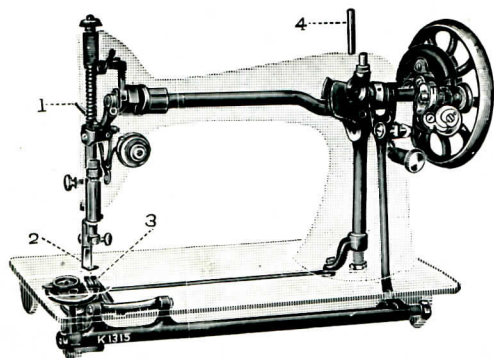

Fig. 2
When familiar with the working movement, tighten the balance wheel by turning the stop motion screw from you, and place a piece of calico or cloth under the presser foot (2, Fig. 2). Lower the presser foot upon the material by means of the presser bar lifter (1, Fig. 2) and again work the machine, without it being threaded, until you have become accustomed to guiding the material.
Tighten the balance wheel, and after placing a piece of material under the presser foot (2, Fig. 2), **turn the handle from you** with an easy and regular motion. Continue to do this until you are able to guide the material correctly with the left hand.
**Skip Stitches.**—A bent or blunt-pointed needle is often the cause of this. See that the needle is accurately set (see page 5). Remove the throat plate, and, after seeing that the feed (3, Fig. 2) is clean and working freely, replace the throat plate.